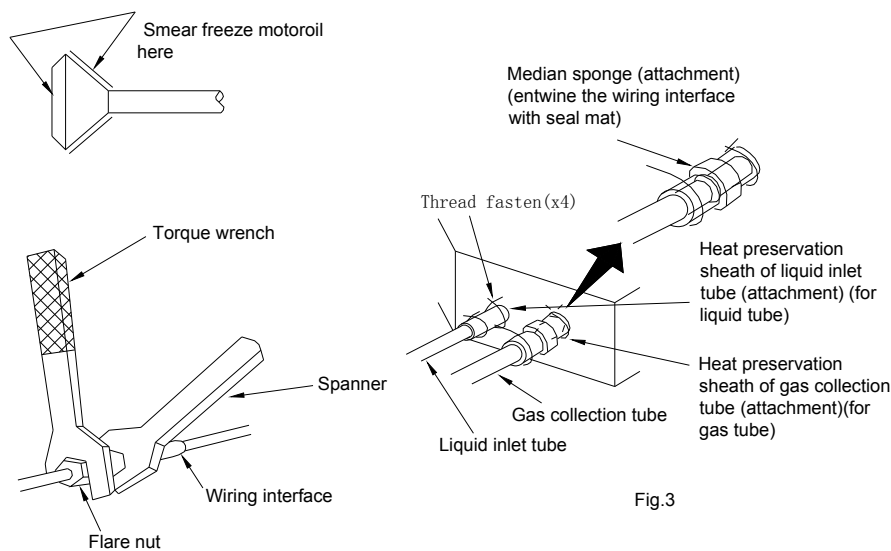

Fig.3
- ☆ When connect the pipe to the unit or backout it from the unit, please do use both spanner and torque wrench. as shown in fig.3.
- ☆ Examine the connection pipe to see if it had gas leakage, then take the treatment of heat insulation, as shown in the fig.3.